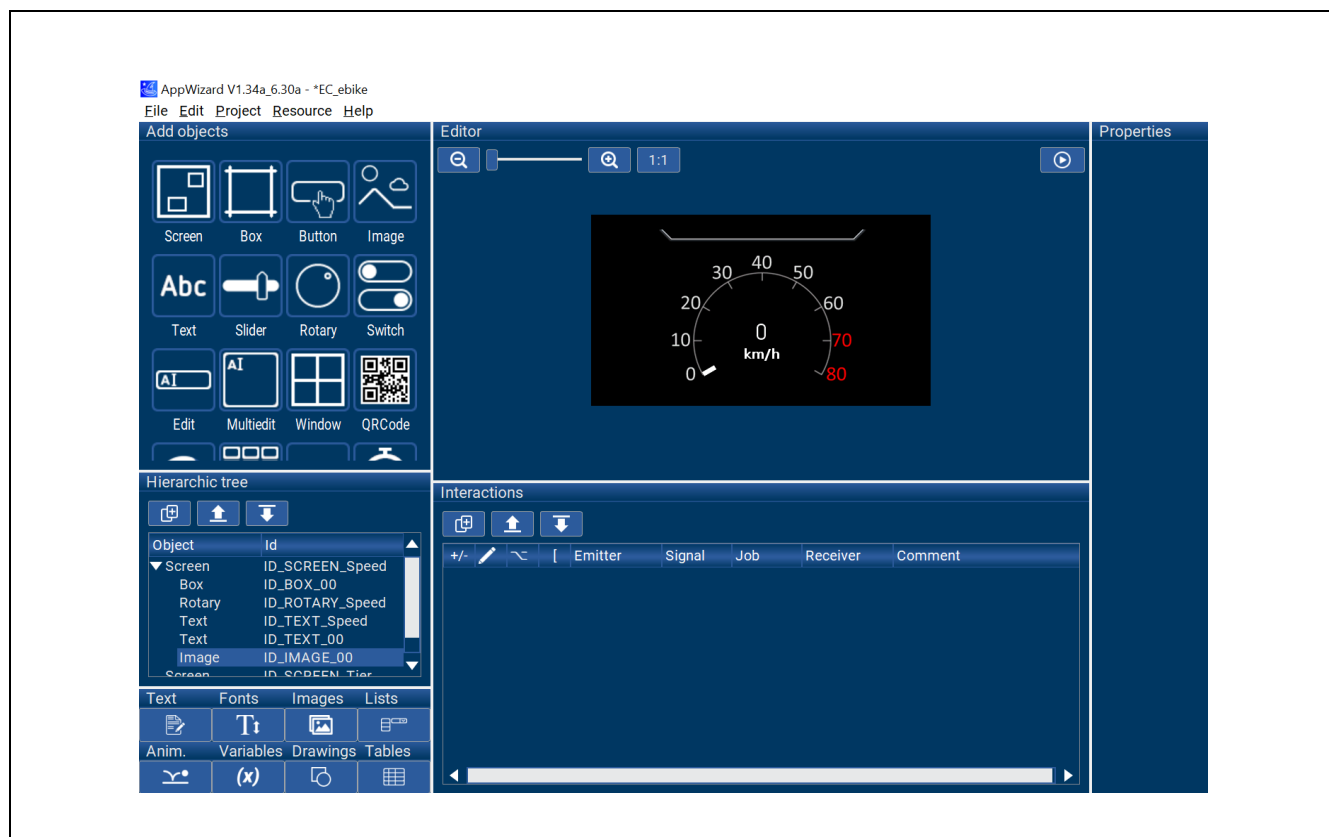

Figure 1-30 Using Image Object to Create A Screen Divider
2) Once the configuration is complete, it should appear as shown in Figure 1-30.